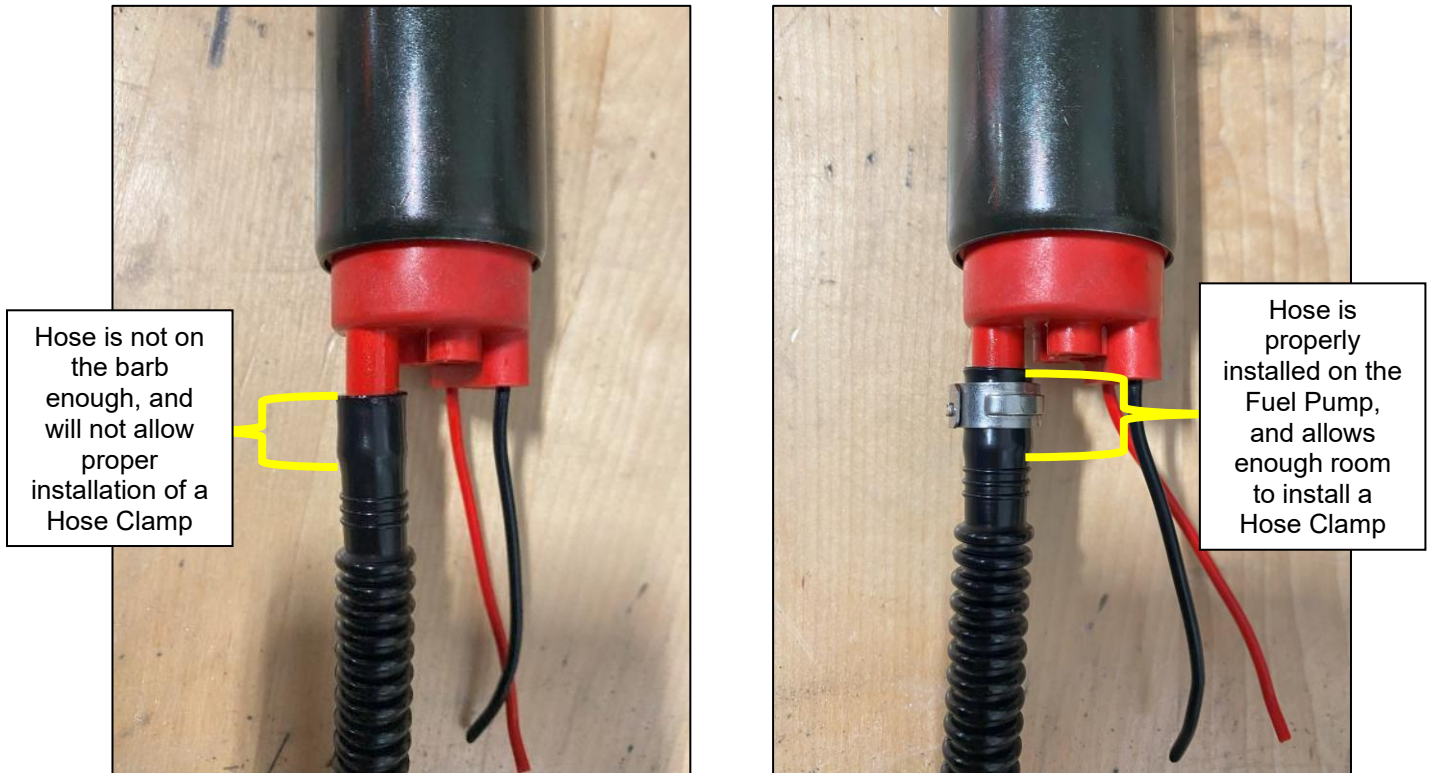

Figure 61
1. Fuel Hose must be pushed all the way onto the barb with enough room to easily install a Hose Clamp to secure the hose. The image on the left of *Figure 61* below shows the hose not all the way on the Fuel Pump Barb, while the image on the right shows the Hose installed properly and secured by a Hose Clamp. Use Silicone Spray or another lubricant to help get the Hose onto the Barb. *Figure 61*.